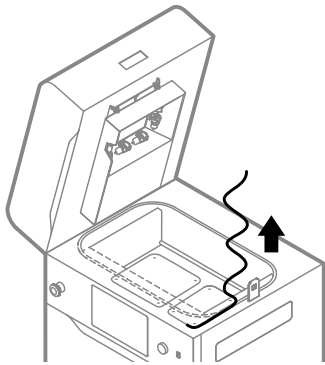

Fig. 13.32 Remove the used fibreglass rope from the Print Bed.
17. Remove the used fibreglass rope around the Print Bed. You can use the metal spatula to help pull out the sealing (fig. 13.32).